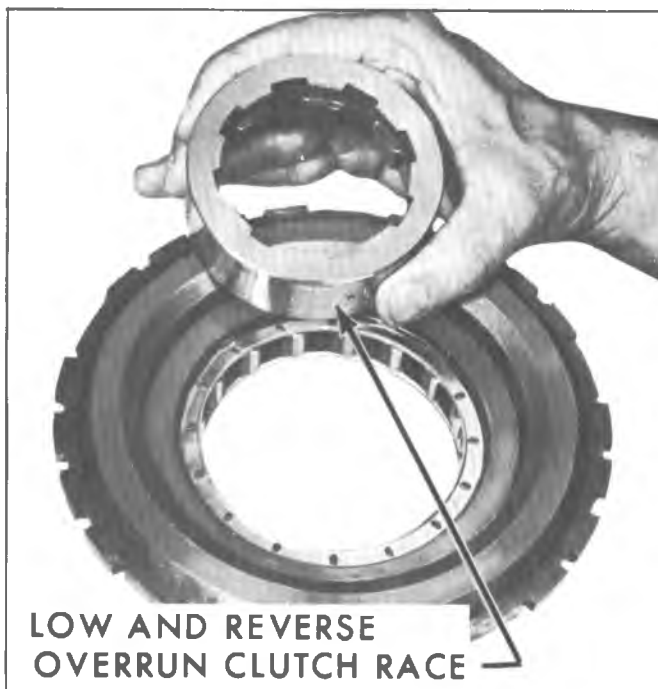

Fig. 90M--Removing Overrun Clutch Inner Race
2. Remove low and reverse overrun clutch inner race from support (fig. 90M).